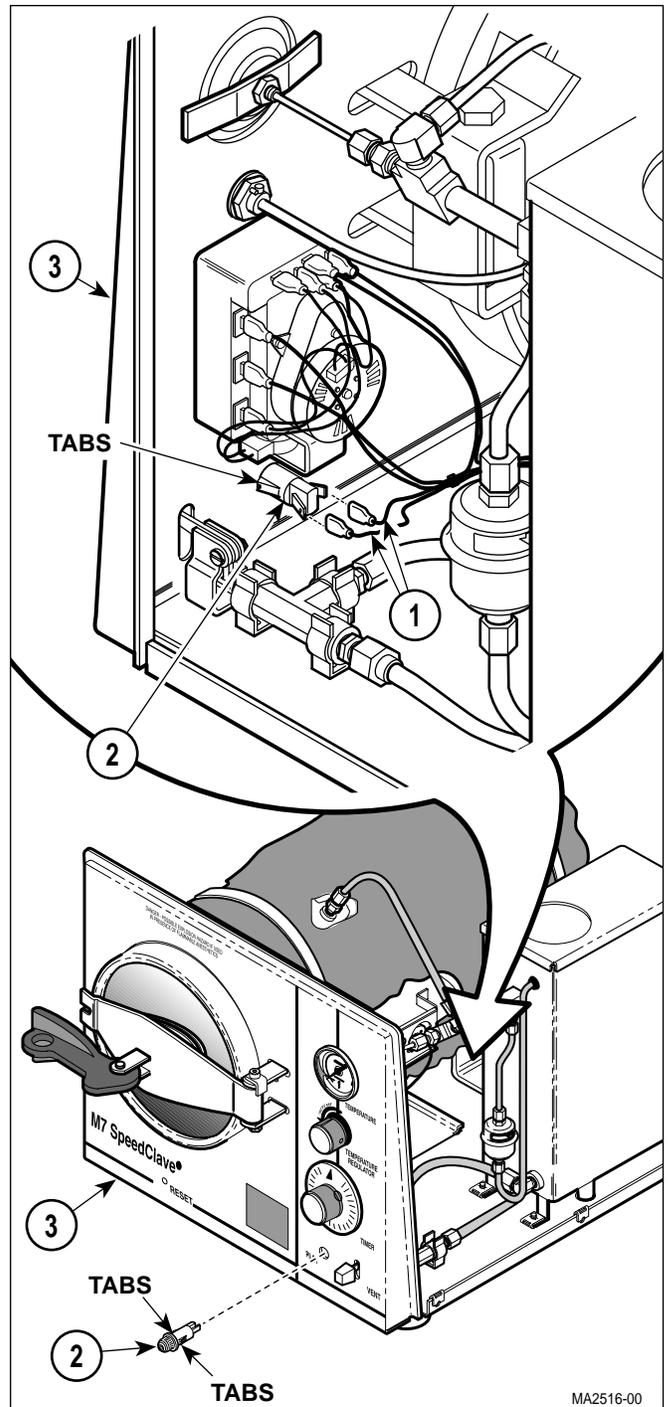

Figure 4-5. Pilot Light Removal / Installation
- (1) Remove cover assembly (Refer to para 4.2).
- (2) Disconnect two wires (1, Figure 4-5) from terminals of pilot light (2).